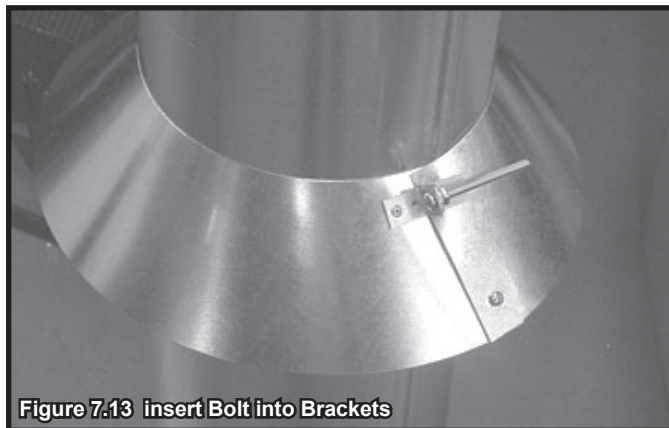

Figure 7.13 Insert Bolt into Brackets
- Caulk the perimeter of the flashing where it contacts the roof surface. See Figure 7.13.
- Slide the assembled storm collar down the pipe section until it rests on the roof flashing (see Figure 7.13).